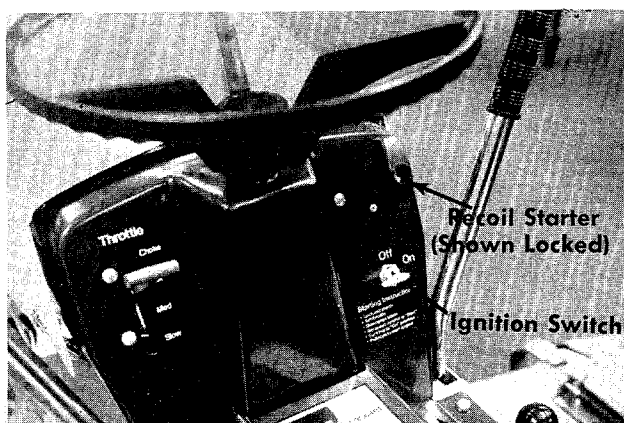

FIGURE 9. RECOIL STARTER
Recoil Model. See figure 9. Turn the key to the ON position when starting the engine. To stop the engine turn the key to the left to the OFF position and remove the key to prevent accidental starting.
k. **Recoil Starter.** The recoil starter is located on the right side of the dashboard. The recoil starter can either be pulled while seated on the rider or pulled while standing behind the rider. The ignition key must be on before the engine will start. After the engine starts, the recoil starter handle must be returned and locked into the dashboard before the blades or clutch are engaged. The engine will stop if you do not follow these instructions. See figure 9.